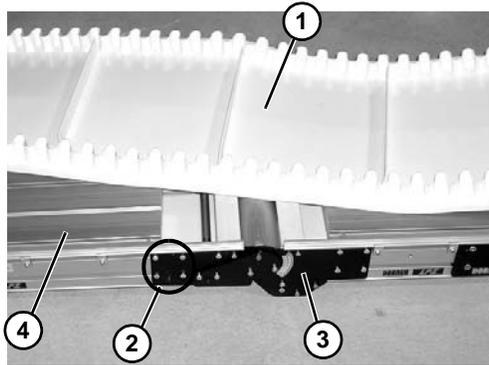

Figure 7
- Roll out conveyor belt (**Figure 7, item 1**). Loosen (4) screws (**Figure 7, item 2**) on both sides of knuckle (**Figure 7, item 3**). Slide frame (**Figure 7, item 4**) into knuckle (**Figure 7, item 3**). Tighten screws (**Figure 7, item 2**) to 60 in-lb (7 Nm) on both sides of conveyor.